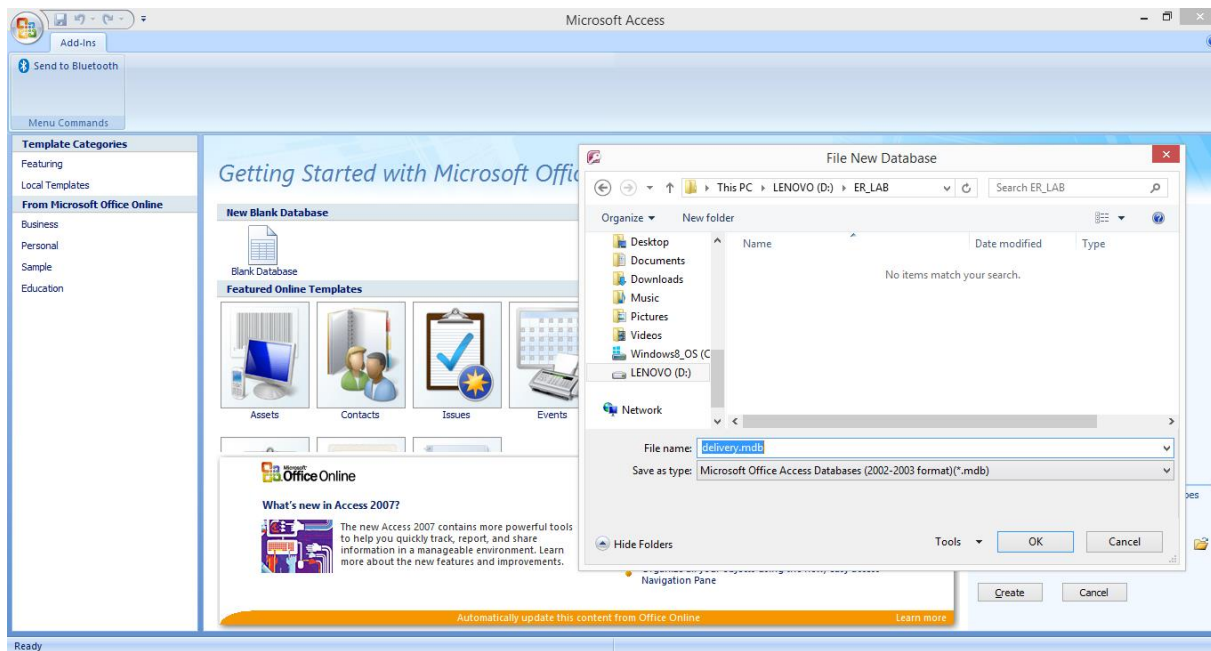

Figure 2
6. Create new database with the name “delivery.mdb” (figure 2).